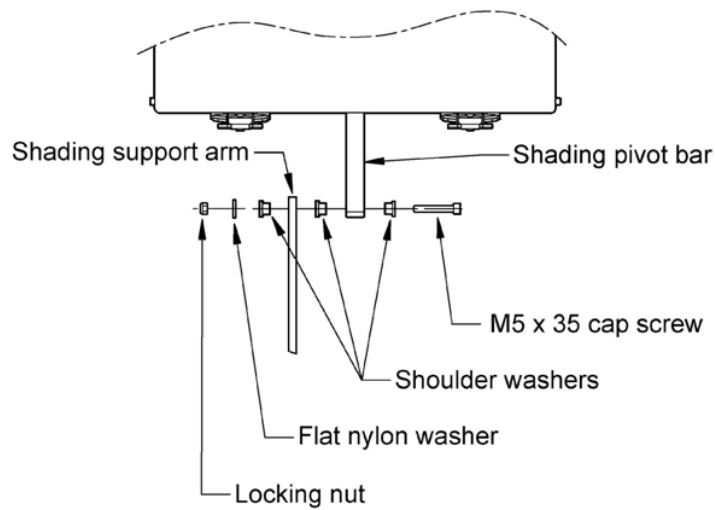

Figure 4.25: Pivot Joint "C" Assembly
- Install the other end of the Shading Support Arm to the Shading Pivot Bar hole with the nylon washers and locking nut shown in figure 4.25. Only tighten the locking nut to minimize clearances, ensure free rotational movement.